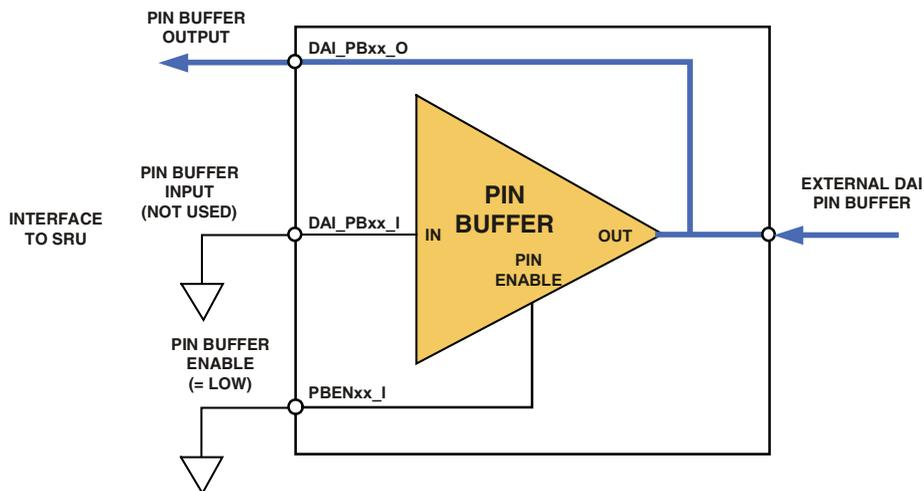
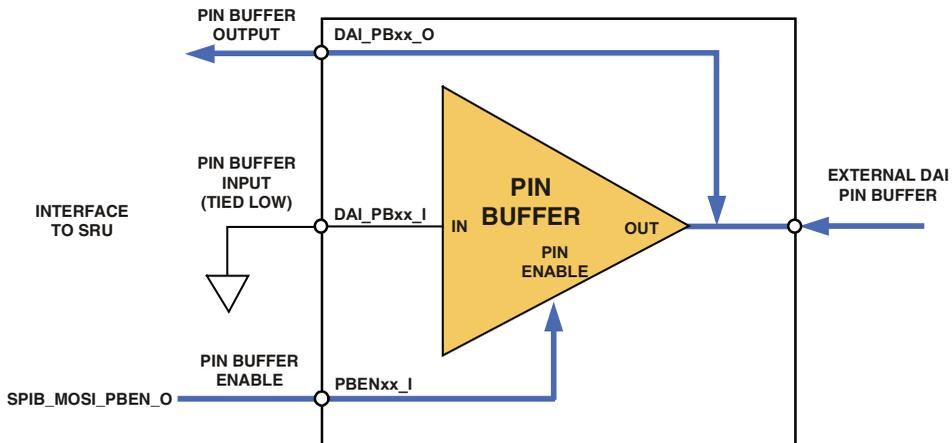

Figure 5-6. Pin Buffer as Input
Figure 5-7. Pin Buffer as Open Drain
When the DAI pin is to be used only as an input, connect the corresponding pin buffer enable to logic low as shown in Figure 5-6. This disables the buffer amplifier and allows an off-chip source to drive the value present on the DAI pin and at the pin buffer output. When the pin buffer enable ( $PBEN_{xx\_I}$ ) is cleared ( $= 0$ ), the pin buffer output ( $PB_{xx\_O}$ ) is the signal driven onto the DAI pin by an external source, and the pin buffer input ( $PB_{xx\_I}$ ) is not used.
**i** Although not strictly necessary, it is recommended programming practice to tie the pin buffer input to logic low whenever the pin buffer enable is tied to logic low (Figure 5-6 and Figure 5-7).
For peripherals like the SPI (multi processing), the bus protocol requires the pin drivers to work in open drain mode (Figure 5-7) for transmit and receive operation where the signal input of the assigned pin buffer is tied low. The peripheral's data output signal is connected to the `PBEN` signal. In open drain mode, if `PBEN = low`, the level on the pin depends on the bus activities. If `PBEN = high`, the driver is conducting (input always low level) and ties the bus to low level.